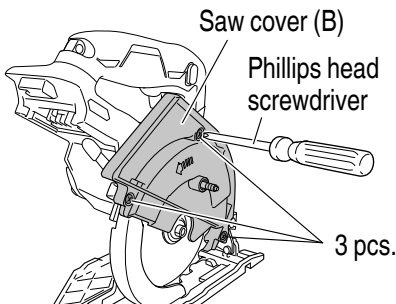

**Fig. 45**
- (1) Loosen the wing nut and remove the saw cover (A). (**Fig. 45**)